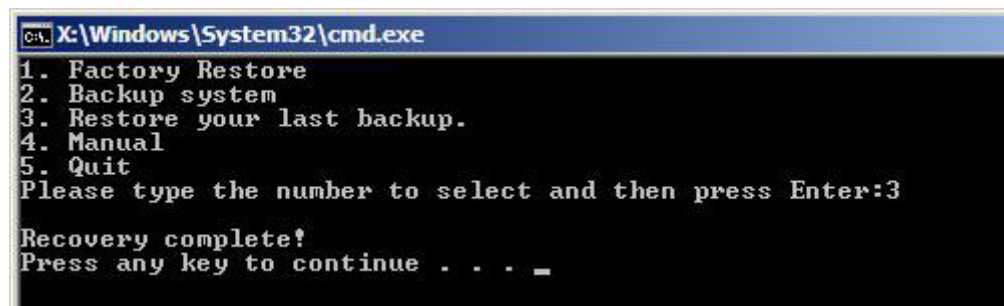

Figure C-32: Restore System Backup Complete Window
Step 3: The screen is shown as in **Figure C-32** when backup recovery is completed.